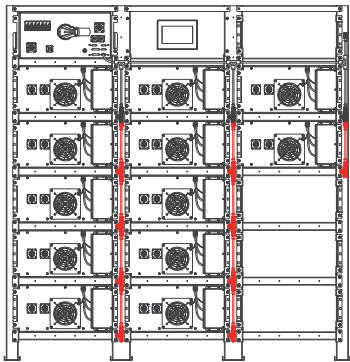

Figure 2.7
(3) Extend the fan power supply cable according to the number of battery boxes. (Figure 2.7).